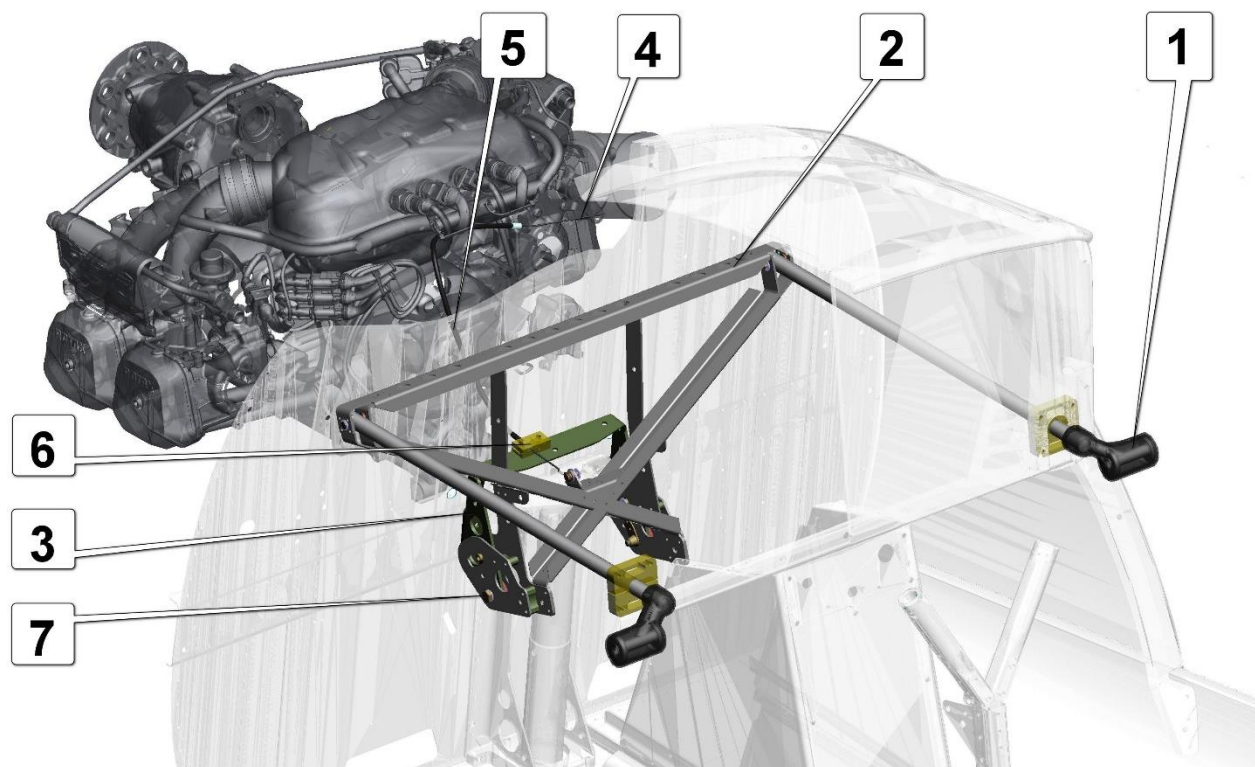

Fig. 9 Engine RPM controls
Rotax-912iS engine is equipped with an electronic control unit (ECU) for fuel injection into intake manifolds immediately before the intake valves. The ECU generates signals for fuel injection and mixture ignition according to the programmed algorithms and data from a number of sensors, including the throttle valve position sensor. Engine speed is controlled by moving the throttle valve from closed to fully open position using the throttle lever 1 (**Fig. 9**) connected with the control column (2) based on the bracket (3). The cable is passed through the flexible sheath (5) and clip (6). The throttle lever friction force can be adjusted on the ground by tightening the bolt (7).